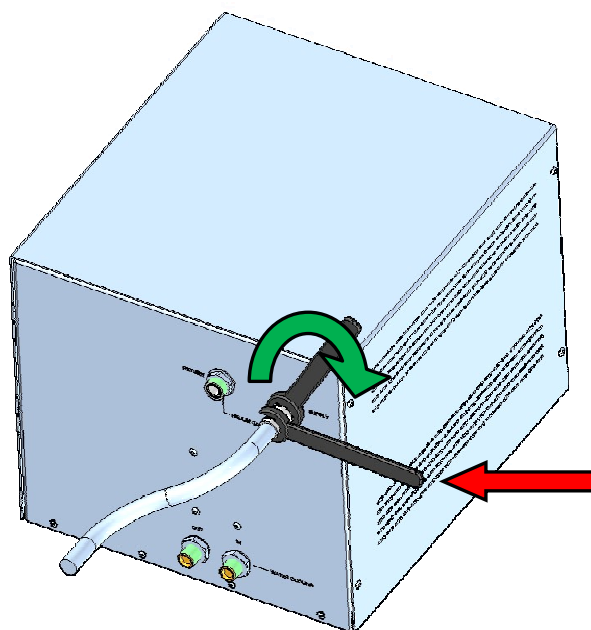

Figure 7 – Connection of a helium hose to the Cryodrive using two spanners
1. To prevent damage to the couplings and leakage of the helium, you must use two spanners as shown in Figure 7.
9. Refer to Figure 7 and rotate spanner (green arrow) whilst holding the other spanner still (red arrow) to fully tighten the coupling.